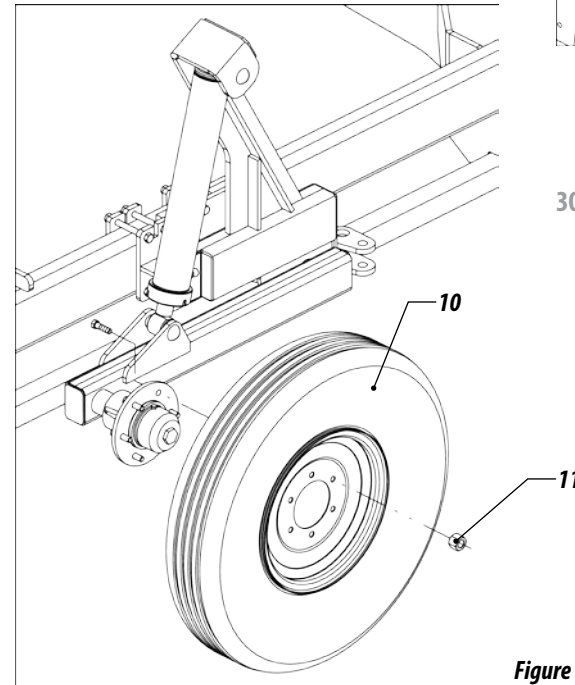

Figure 15
30- Raise the seed drill onto the hydraulic of the tractor and couple the tire (10) through the pins (11), figure 15.